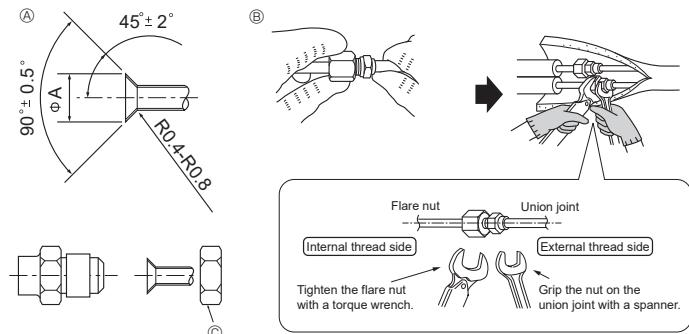

Fig. 4-1
4.2. Connecting pipes (Fig. 4-1)
- For connection, first align the center, then tighten the first 3 to 4 turns of flare nut by hand and use two wrenches to tighten piping connections (B).
⑧ Flare nut tightening torque